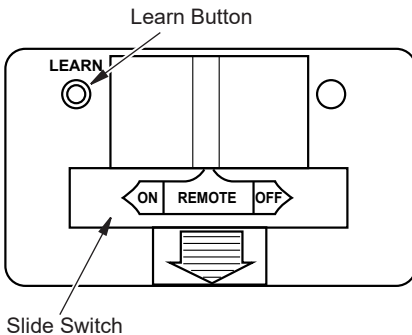

Figure 22 - Receiver
1. Place the slide switch on the receiver in the remote position (see Figure 22).